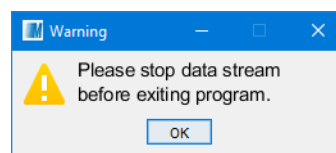

Figure 2-9: Exit Warning
**NOTE:** If the Virtual Scope utility is collecting data when Exit is selected, a warning message (shown in Figure 2-9) is displayed notifying the user that the data collection must be stopped before exiting.